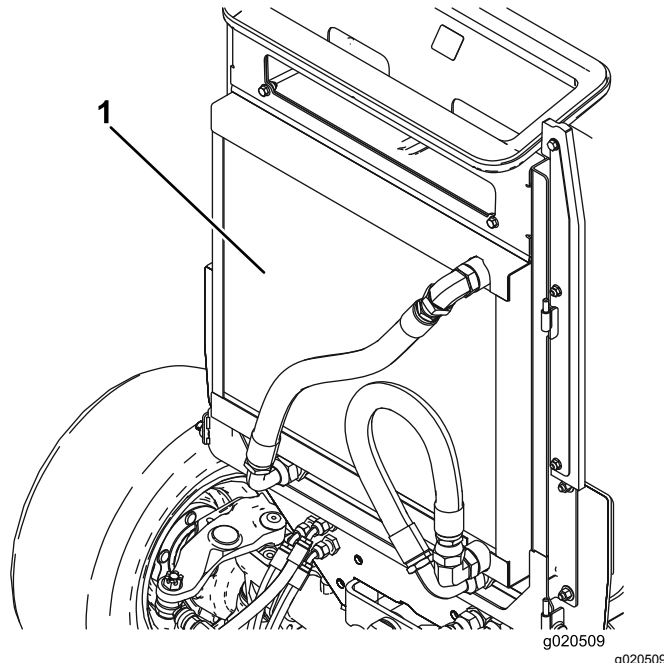

Figure 113
4. Thoroughly clean both sides of the oil cooler and the radiator with compressed air (Figure 113).